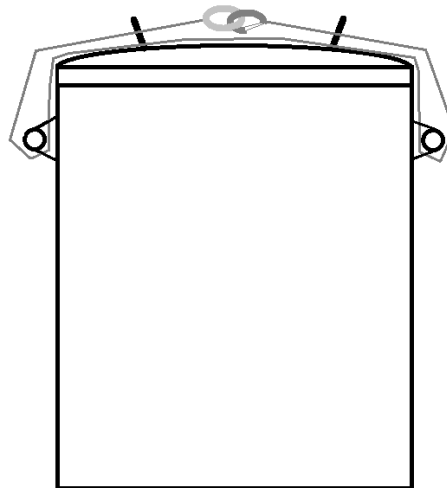

Figure 11: Secure Cable
- Loop the safety cable through both lid handles and through the handles on both sides of the vessel and then up through the lid handles and secure the two ends together (See Figure 11)